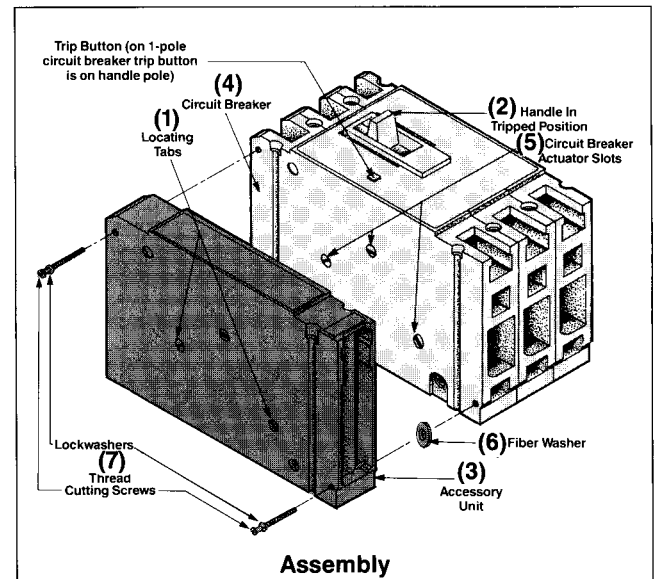

Figure 1
- D. Before assembling accessory unit to the breaker, make certain that all exposed accessory actuator slots are in line with the locating tabs (1) and the circuit breaker handle (2) is in the tripped position (Figure 1).
- A. Position accessory unit (3) against the side of the circuit breaker (4) carefully to determine that all accessory actuator blades are engaged into the actuator slots of the circuit breaker (5). NOTE: Fiber washer (6) must be placed between the circuit breaker and the accessory unit as shown in Figure 1.
- B. Secure accessory unit to the circuit breaker using two #6-20 x 1.38 in. thread cutting screws and split lockwashers (7).